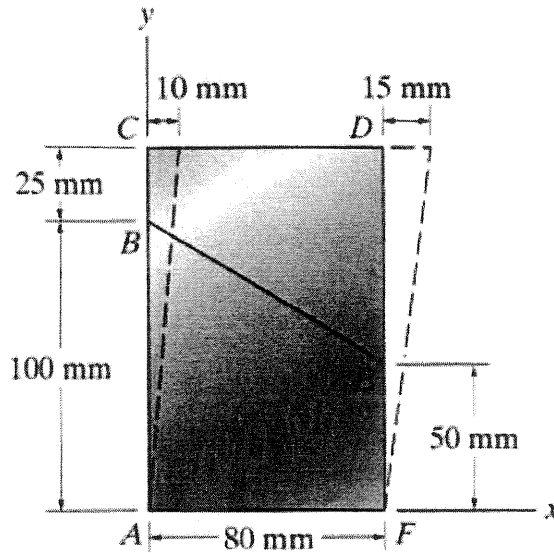

Figure 2: Deformed Material
- (b) A rectangular material is deformed into the position shown by the dashed lines as shown in Figure 2. Calculate the following: